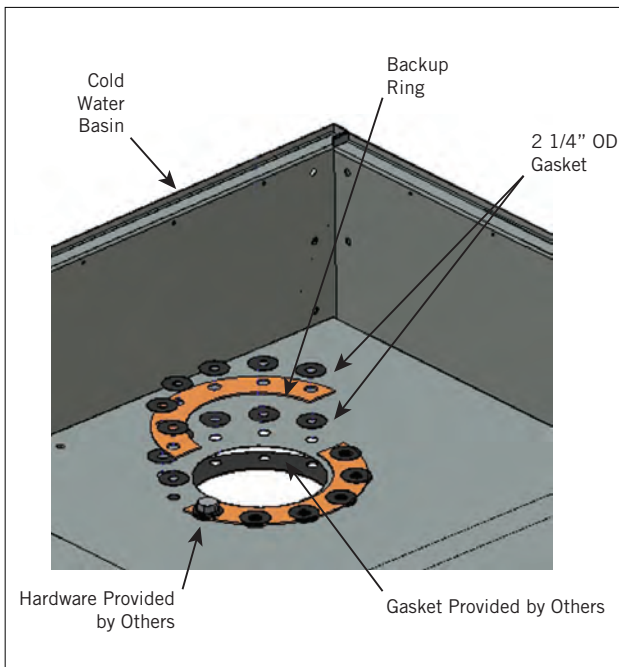

Figure 21. Bottom Water Outlet
1. The bottom connection seal, **Figure 21**, is typical for all bottom remote sump outlets, and bypasses. Flange mounting hardware and gasket to be supplied by others.